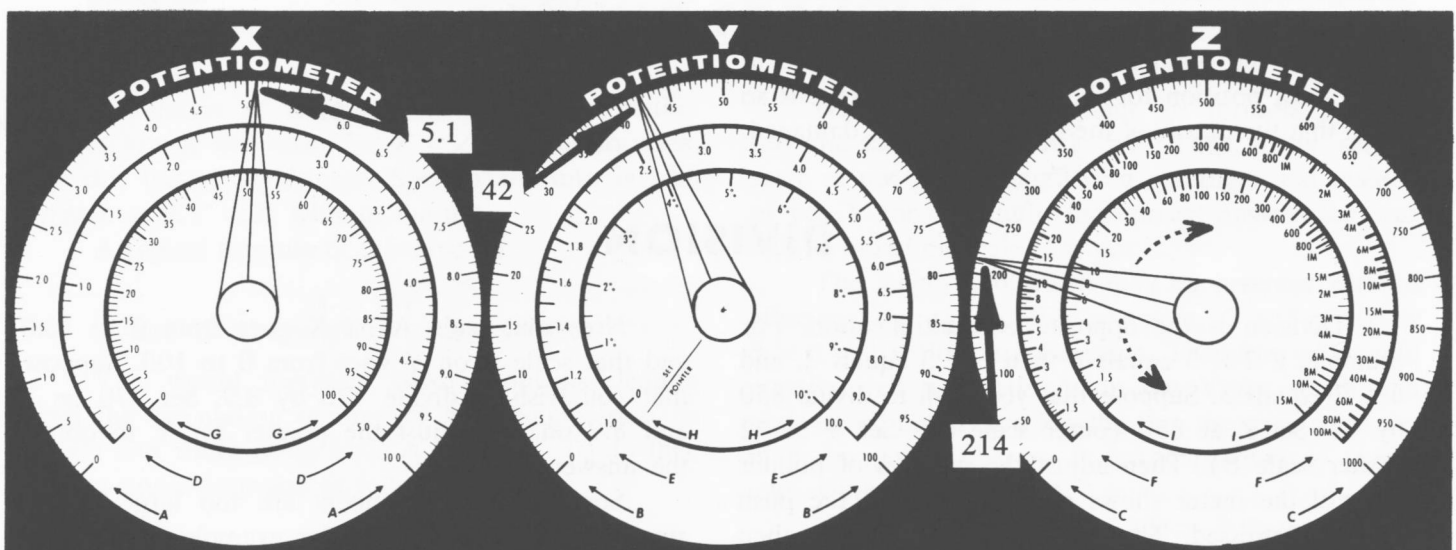

Fig. 19
1) Set the pointer for X at any desired number on the outer scale (scale A). For example, set the pointer at 5.1 (Fig. 19).
2) Set the pointer for Y at any number on the outer scale (scale B). For example, set the pointer at 42 (Fig. 19).
Your answer for the number above will be close to the correct answer, 214. (See Fig. 19.)